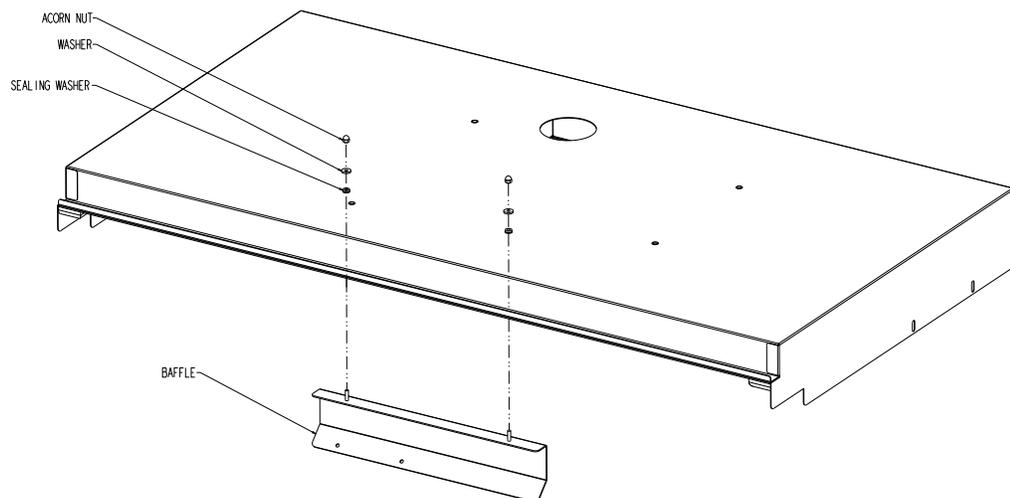

Figure 1.
4. Assemble the baffle assembly onto the adapter lid as shown in Figure 1.